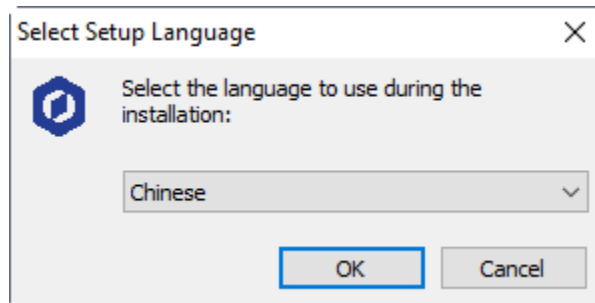

Figure 2.4 The Select Setup Language dialog box
Step 2 In the installation directory double-click **DobotStudioSetup.exe**. The **Select Setup Language** dialog box is displayed, as shown in Figure 2.4.